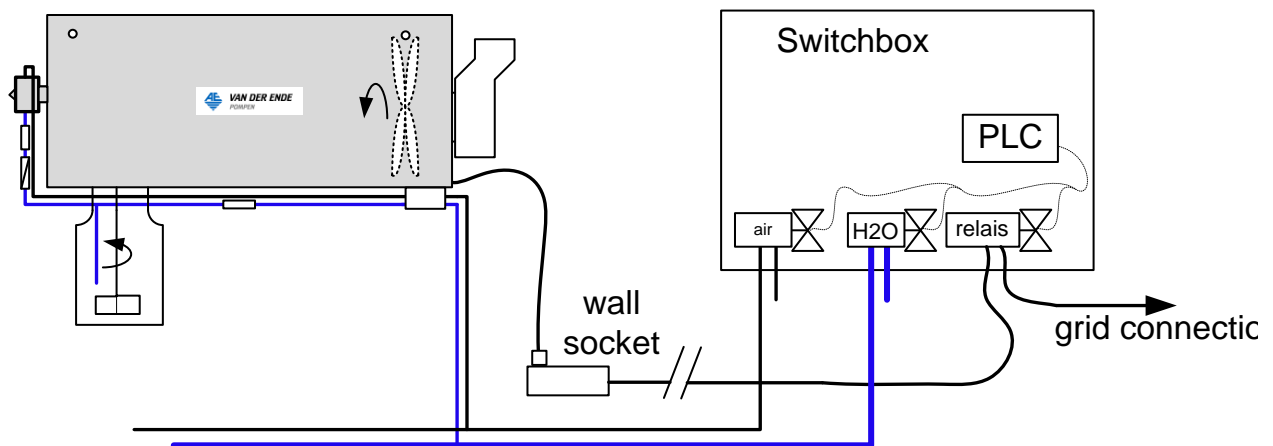

Figure 4 Installation of the Enbar, U2 type
- Refer to figure 4 for a situational sketch.